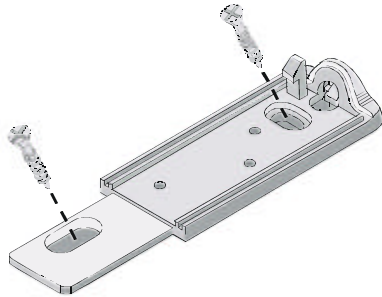

fig. 6a
1. Fix the upper terminal base (fig. 6a) at the desired height.